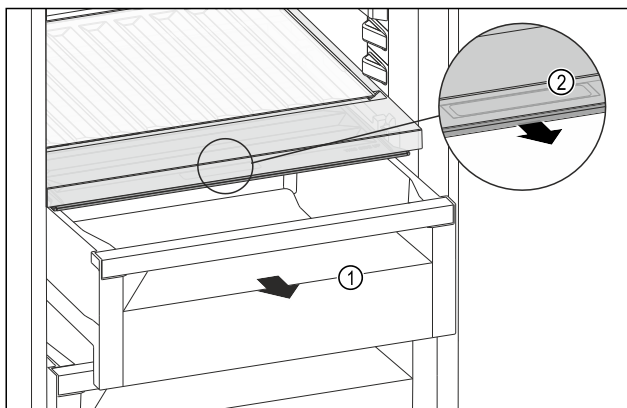

Fig. 174
- Pull out the drawer *Fig. 174 (1)*.
- Grasp the recessed grip *Fig. 174 (2)* on the compartment lid and pull the compartment lid forwards at the same time.